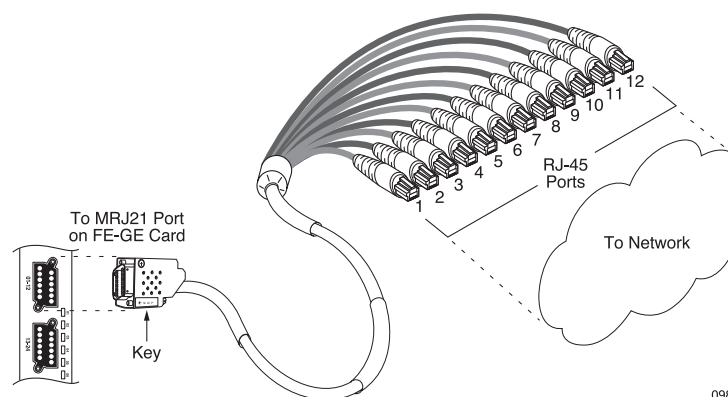

Figure 20 FE-GE Breakout Cable
- a Starting with the outer slots on the left side of the chassis, attach a breakout cable to the lowest connector to be cabled on the FE–GE line cards. Position the connector so that the incised label “KEY” on the connector is on the left side of the connector as you face the chassis; see Figure 20.